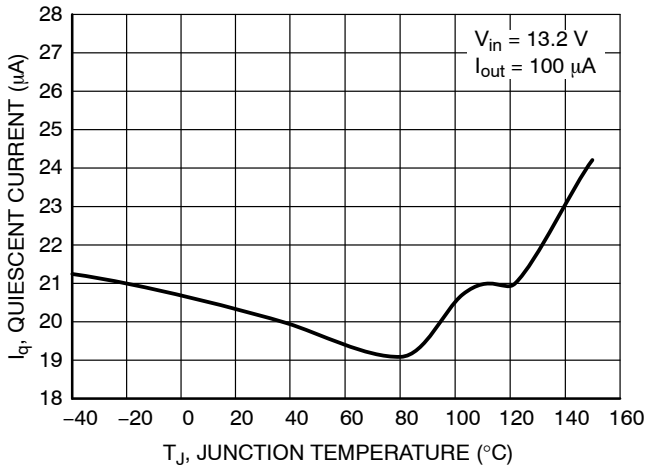
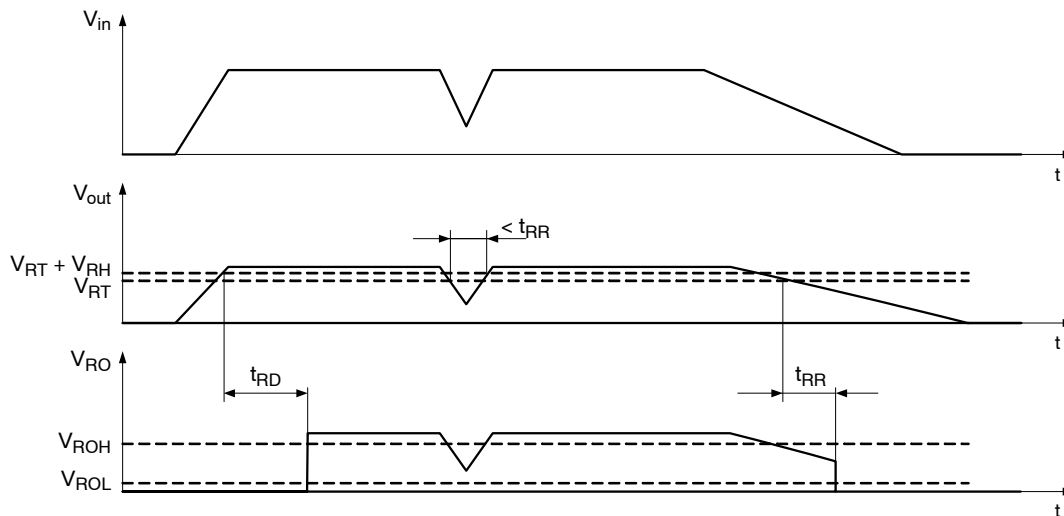

Figure 4. Quiescent Current vs. Temperature
Figure 21. Reset Function and Timing Diagram
The NCV8770 regulator is self-protected with internal thermal shutdown and internal current limit. Typical characteristics are shown in Figure 4 to Figure 21.
A reset signal is provided on the Reset Output (RO) pin to provide feedback to the microprocessor of an out of regulation condition. The timing diagram of reset function is shown in Figure 21. This is in the form of a logic signal on RO. Output voltage conditions below the RESET threshold cause RO to go low. The RO integrity is maintained down to Vout = 1.0 V. For 5 V voltage option, the Reset Output (RO) circuitry includes internal pull-up (30 kΩ) connected to the output (Vout) No external pull-up is necessary.